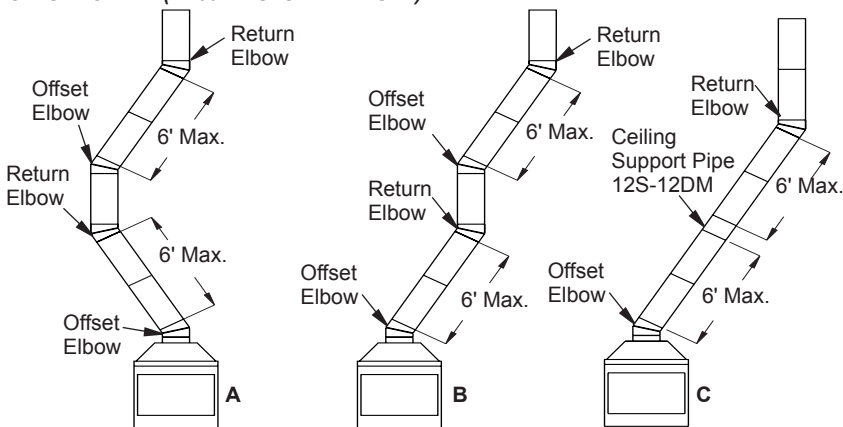

Figure 7 - Typical Offset Terminations
- To achieve desired offset, you may install combinations of 12", 18", 24", 36" and 48" length of double wall pipe (see offset chart and Figure 7).
- Maximum length of pipe between supports (return elbow or 12S-12DM) is 6' of angle run. Maximum of two 6' angle run sections per chimney system (see Figure 7).